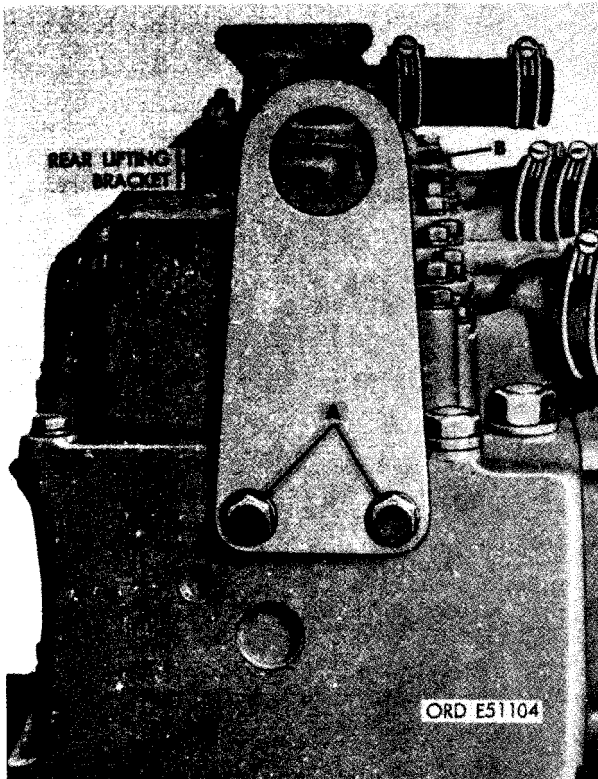

FIGURE 262. REMOVING OR INSTALLING ENGINE REAR LIFTING BRACKET.
- (2) Figure 262. (A) Remove two 7/16 x 7/8 cap screws and 7/16-inch lock washers securing engine rear lifting bracket to rear cylinder head assembly. (B) Remove engine rear lifting bracket.